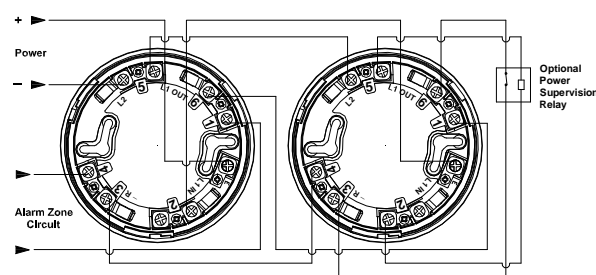

Fig. 2: 4-wire base wiring connections
- b. See Fig. 2 for detectors using 4-wire bases.